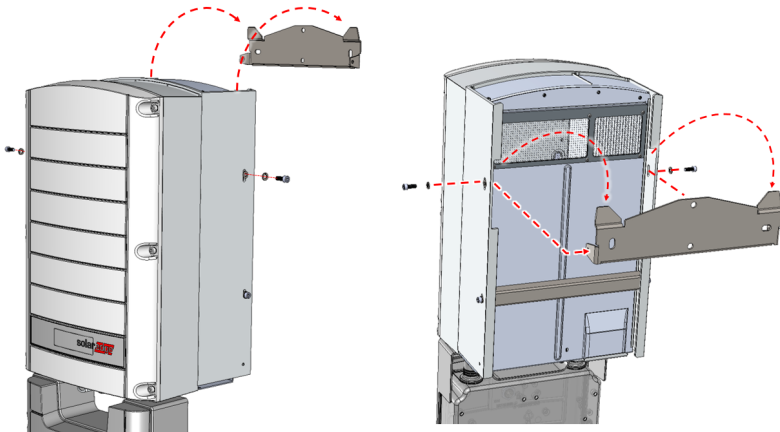

Figure 17: Hanging the inverter on the brackets
3. Hang the inverter on the bracket (See *Figure 17*):
6. Hang the inverter on the bracket (See *Figure 17*):